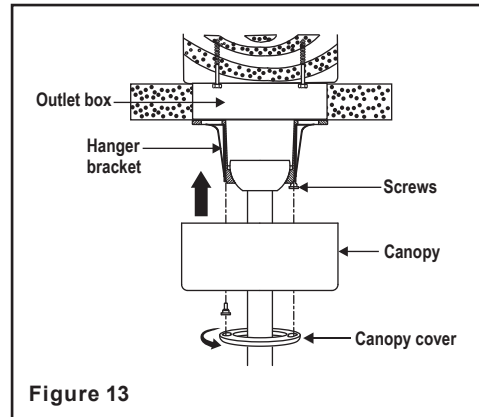

Figure 13
Step 2. Slide the canopy up to mounting bracket and place the key hole on the canopy over the screw on the mounting bracket, turn canopy until it locks in place at the narrow section of the key holes. (Fig. 13)